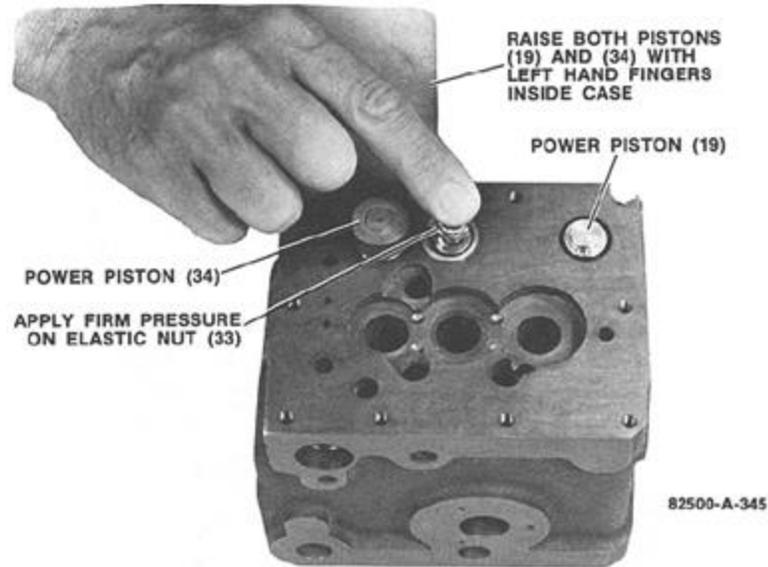
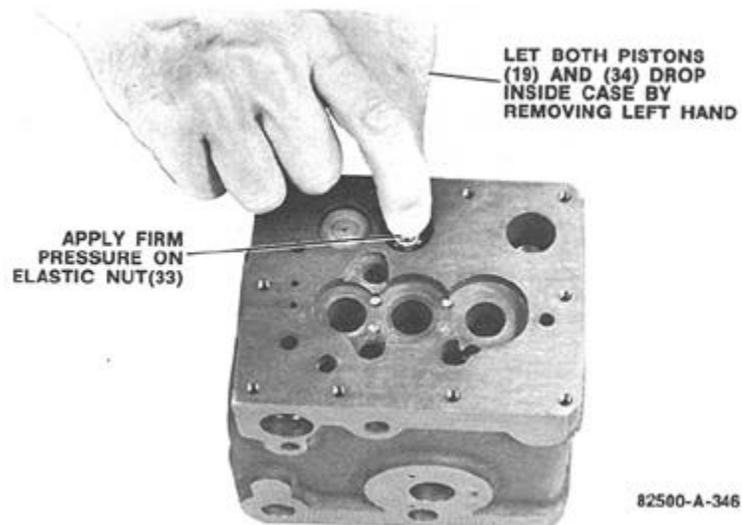

Figure 5-17b. Raising Power Pistons
Figure 5-17c. Dropping Power Pistons
- (2) Apply pressure on elastic nut (33) with index finger and raise both pistons (19) & (34) with inside hand. See Figure 5-17b. Remove inside hand quickly to allow piston linkage assembly to drop sharply in order to remove all stickiness and insure proper seating. Repeat this step three or four times. See Figure 5-17c.